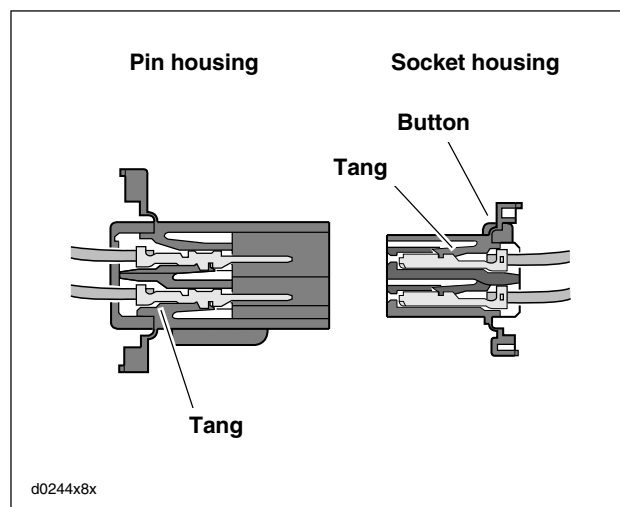

Figure B-3. Multilock Connector Cutaway View
- See Figure B-3. The tang in the chamber engages the slot to lock the terminal in position.
2. Raise locking bar by pushing up on bottom flange. With the crimp tails facing upward, insert contact (socket/pin) through locking bar, so that the closed side of the contact rests on the front nest (concave split level area of the crimp tool). See Figure B-3.